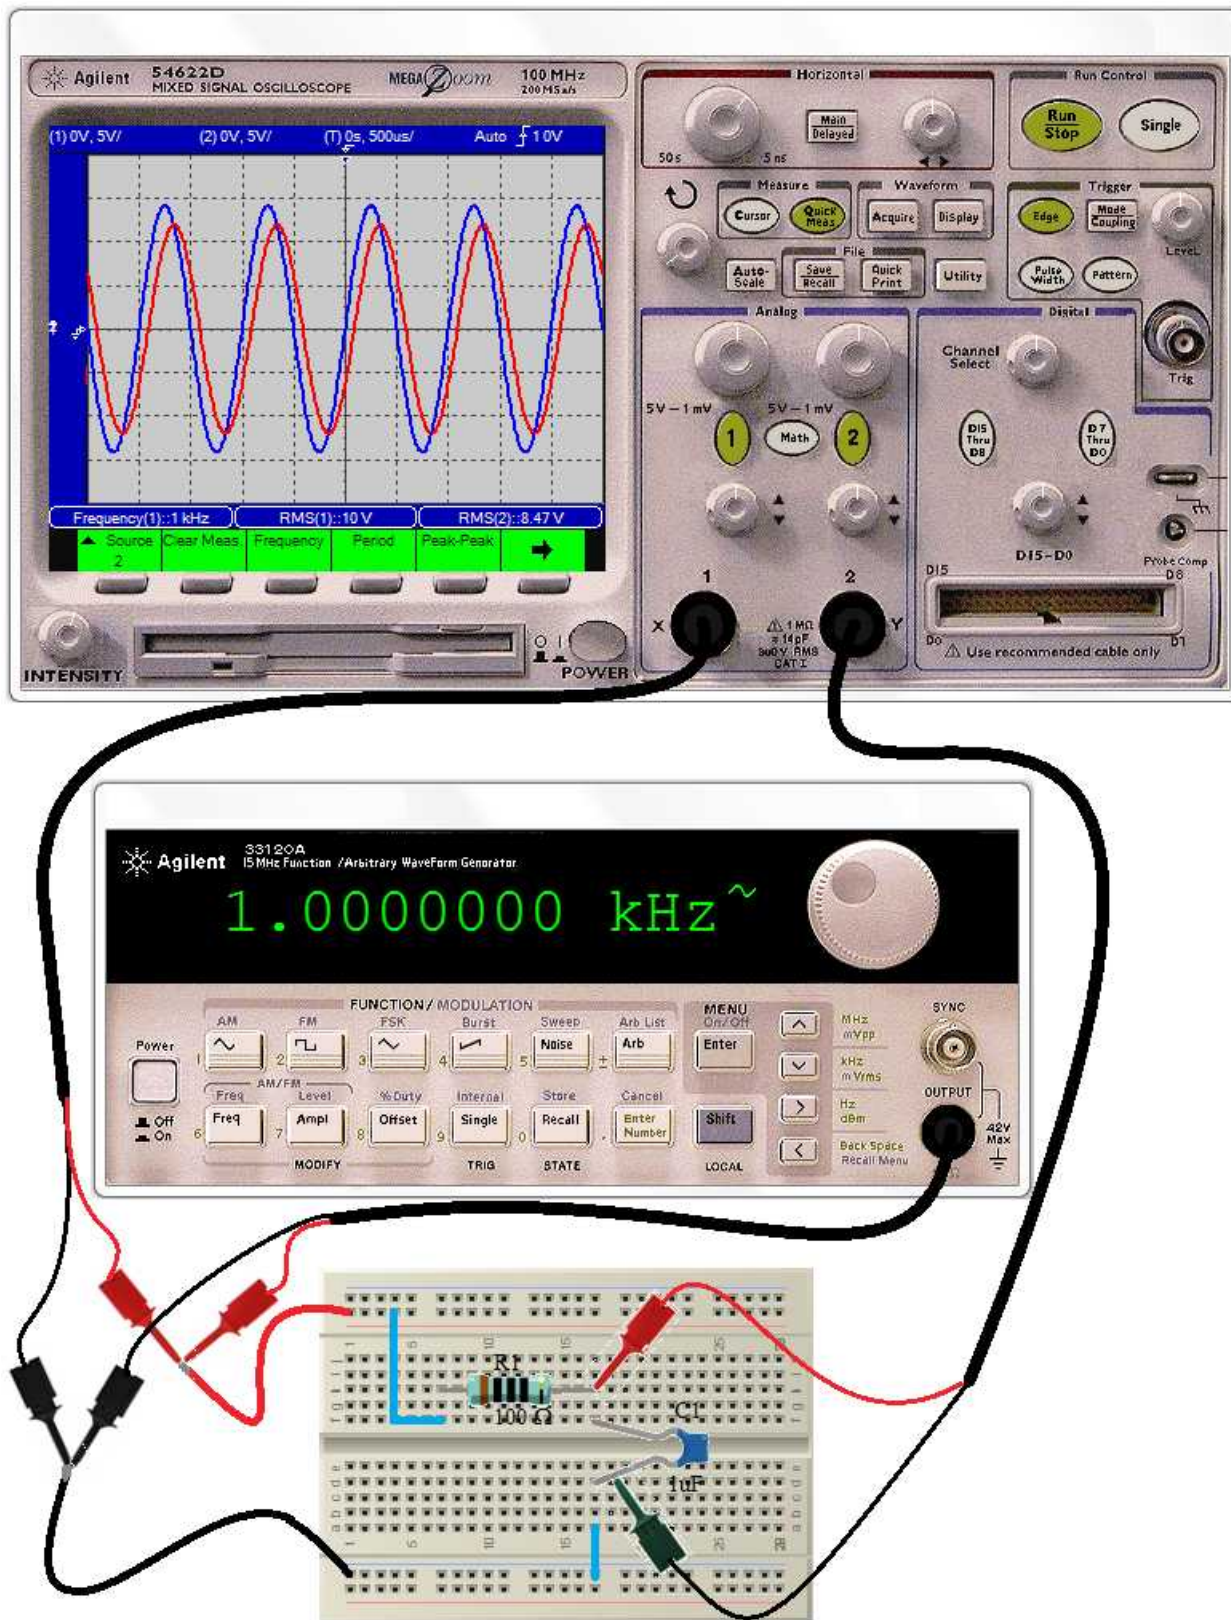

Figure 3-5: RC Low-pass filter, real world circuit connection
2. Construct the low pass filter circuit as illustrated in circuit connection figure 3-5.